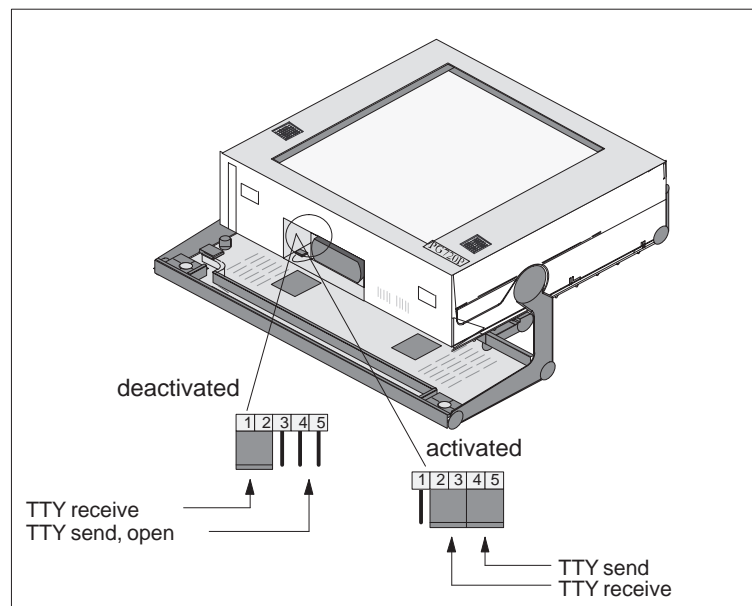

Figure 4-13 Activating, Deactivating the TTY Port using jumpers
Change the jumper settings as shown in Figure 4-13.
5. Insert the jumper in slot 1-2 (see Figure 4-13).